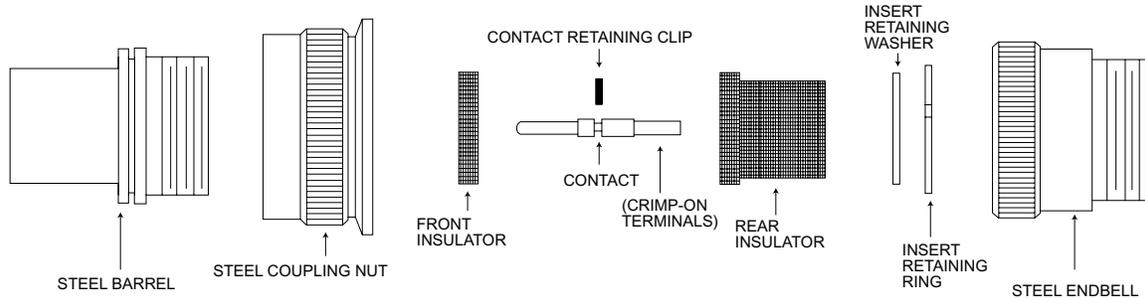

FIGURE 1
- * 1. Remove Formica retaining ring (or the ceramic retaining ring) from contact (Figure 1).
5. Attach Formica retaining ring onto the contact (see Figure 1).